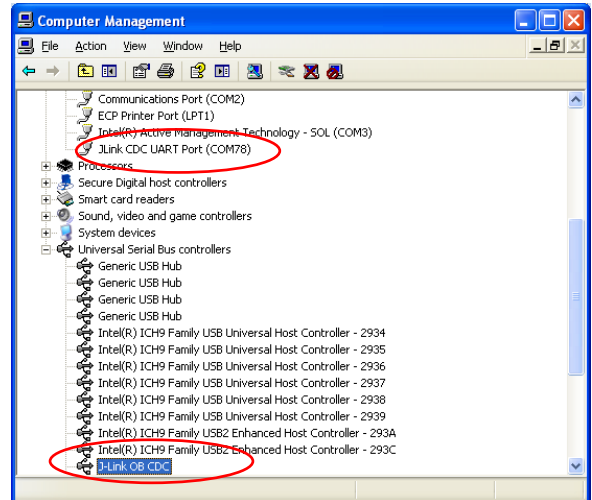

Figure 4. Device Manager
3. Plug in the emulator board and check the device manager (see Figure 4).